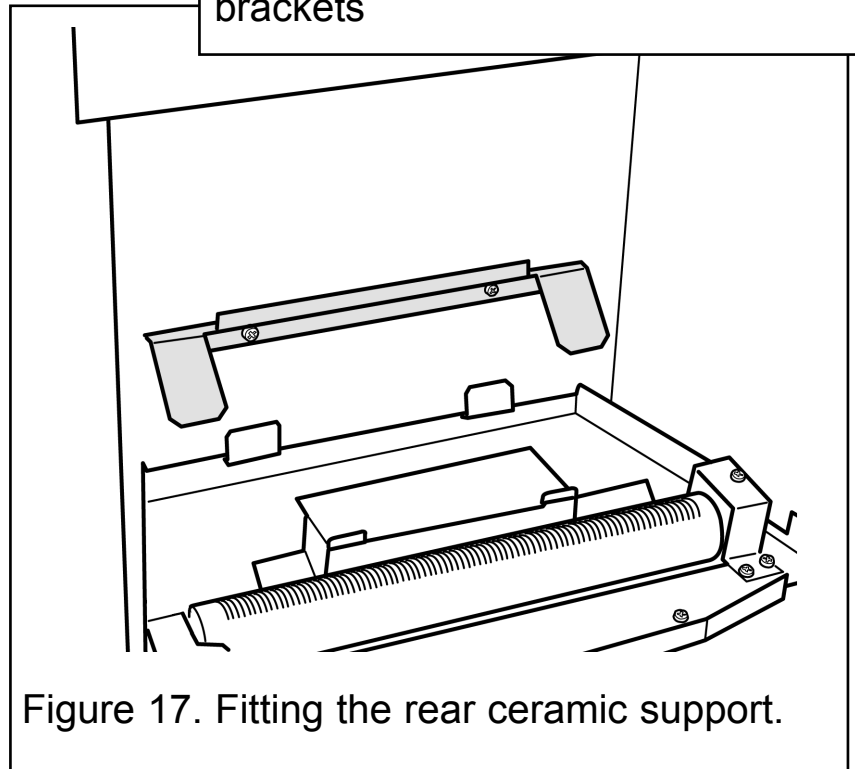

Figure 17. Fitting the rear ceramic support.
**11.** This appliance is supplied with a rear ceramic support bracket. Fit this using two screws supplied (See figure 17)